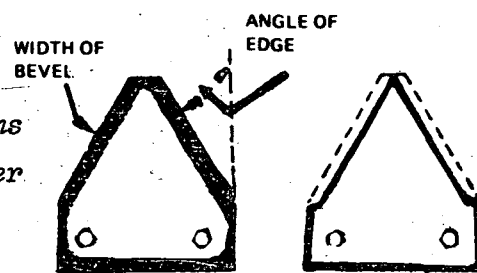

Fig. 2
- Sharpen until the bevel and cutting angle match the original. When the apex is equal to a point the section should be changed (Fig. 2).
- b) Sharpen the sections maintaining the cutting angle and bevel (Fig. 2).